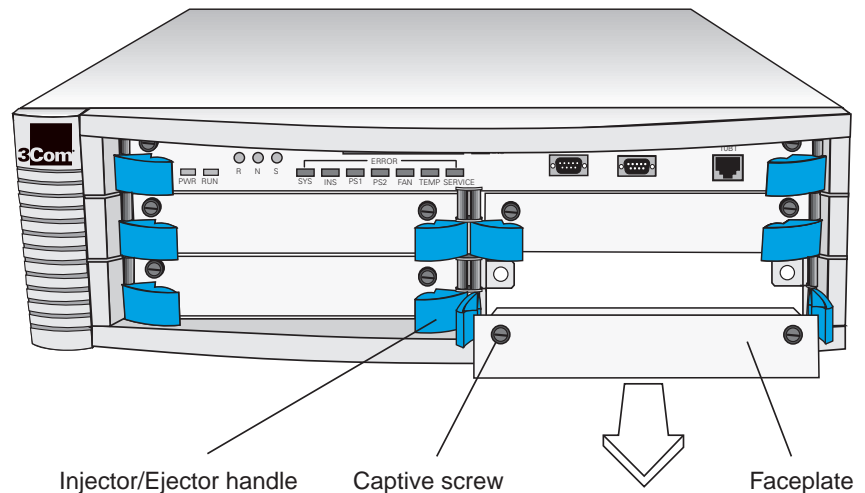

Figure 1 Removing the Blank Faceplate
- 3 Pull the faceplate away from the system. See Figure 1. Save the faceplate for future use.